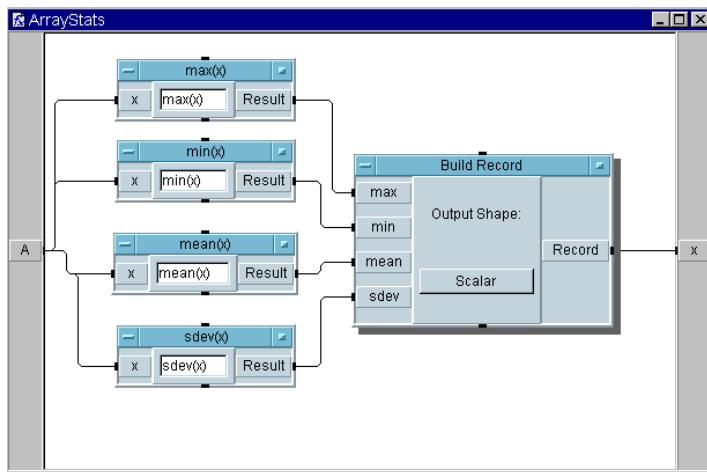

Figure 8-4. Editing the UserFunction ArrayStats
- f. Connect the Build Record output to the x output terminal on the User Function editing window. The program should look like Figure 8-4. Then click the iconize button on the window.